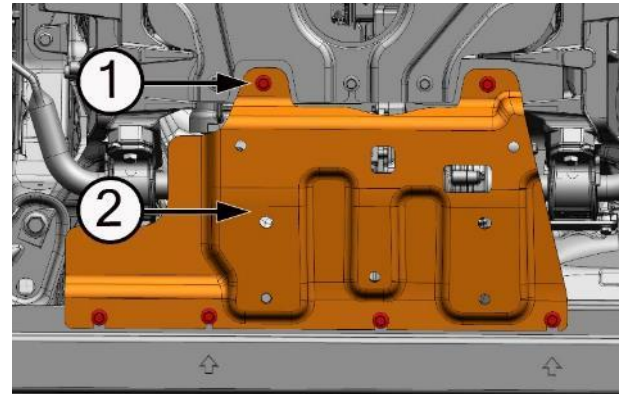

Figure 32 – Stabilizer Bar Skid Plate
7. Remove the bolts securing the front suspension stabilizer bar skid plate to the vehicle (Figure 32).
8. Remove the front suspension stabilizer bar skid plate from vehicle (Figure 32).